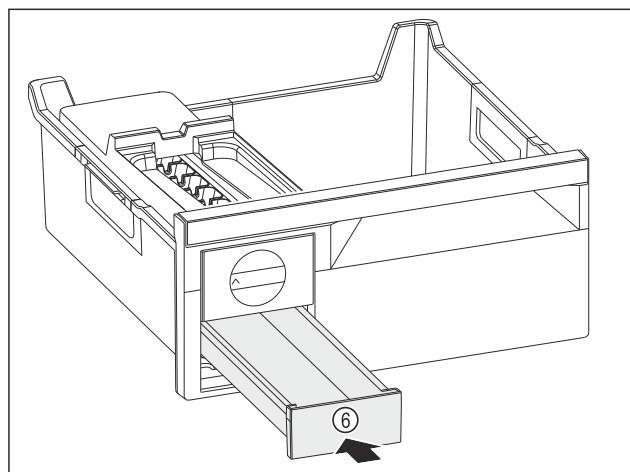

Fig. 148
- ▶ Insert the ice cube drawer Fig. 148 (6).